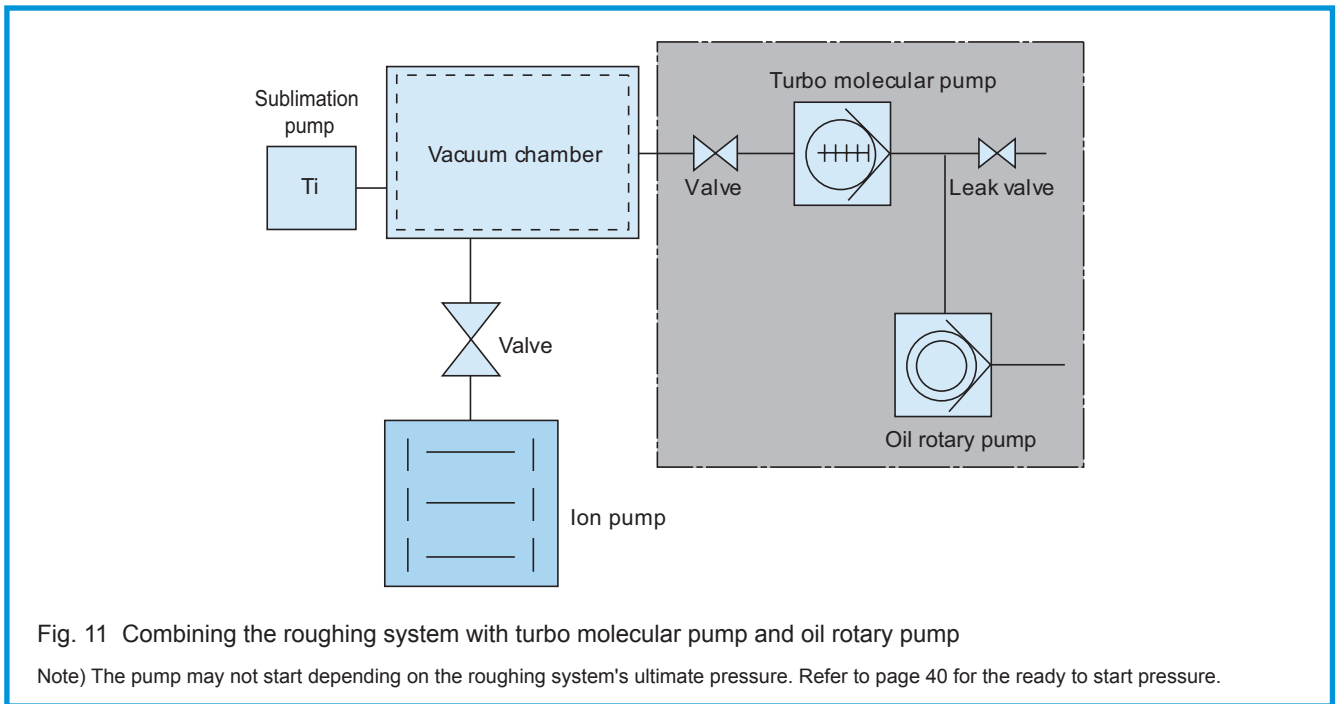

Fig. 11 Combining the roughing system with turbo molecular pump and oil rotary pump
• System combining the turbo molecular pump and oil rotary pump (Fig. 11)